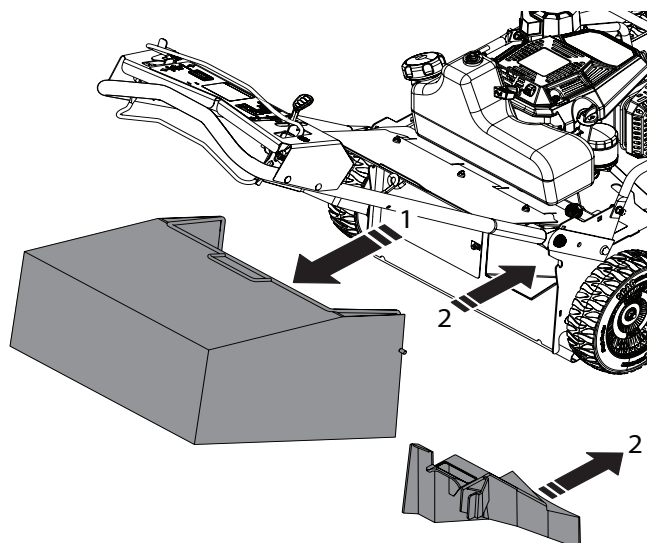

Figure 6-12. Mulch Conversion
1. Lift the rear cover and remove the grass collection bag from the mower. See Figure 6-12.
2. Insert the rear discharge plug into the cutter deck. See Figure 6-12.